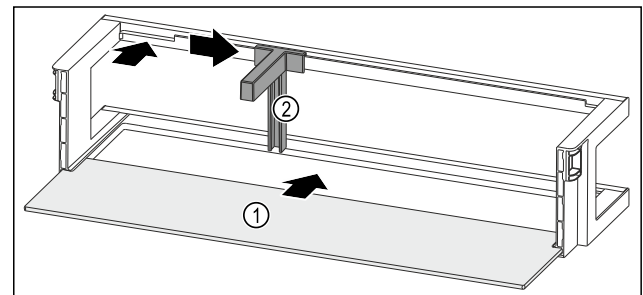

Fig. 135 Door racks with shelf
- ▶ Push the shelf Fig. 135 (1) into the side recesses.
- ▶ Insert the bottle holder Fig. 135 (2) into the recess.
- ▶ Push the bottle holder Fig. 135 (2) to the side into the desired position.